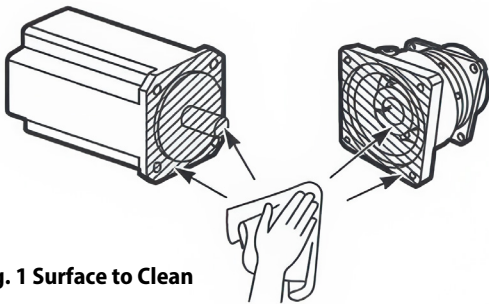

Fig. 1 Surface to Clean
1. Wipe rustproofing or other oils from the motor shaft surface and the flange surface of the reducer. See **Figure 1**.